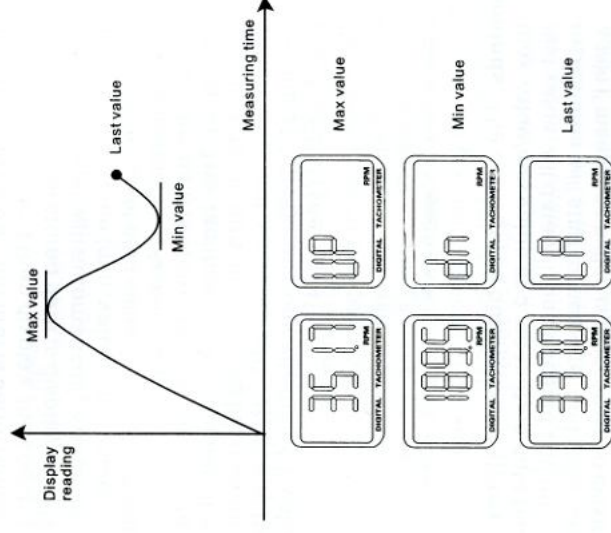

Fig. 1
- (2) Memory call button operation A readout (the max value, min value, last value) obtained immediately before turning off the MEASURING BUTTON is automatically memorized. For example, please ref. following fig. 1. That Memorized value can be displayed on the indicator by turn once depressing the memory button. The Symbol "UP" represents the Max. Value and "DN" the Min. Value, "LA" the Last Value.